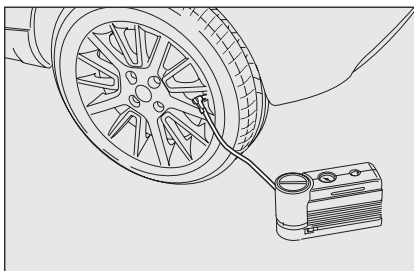
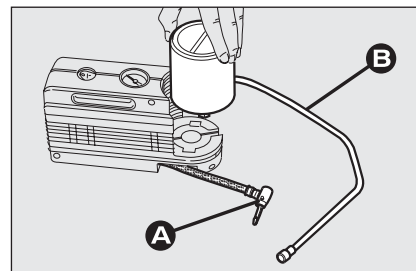

fig. 13
fig. 14
The compressor may also be used for restoring pressure only. Release coupling **A**-fig. 14 and connect directly to the tyre valve **fig. 13**. In this way, the cylinder will not be connected to the compressor and no sealant will be injected.
- ☐ release connection **A**-fig. 14;